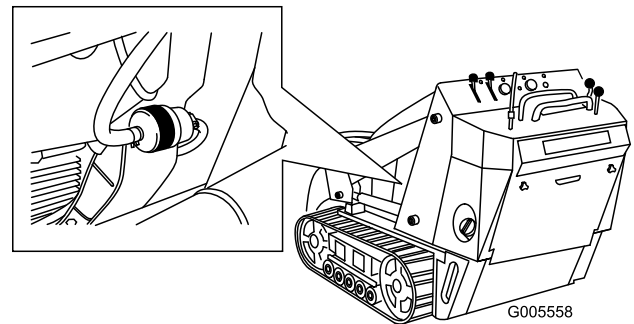

Figure 37
4. Clamp the fuel lines on both sides of the fuel filter (Figure 37).
5. Squeeze the ends of the hose clamps together and slide them away from the filter (Figure 37).